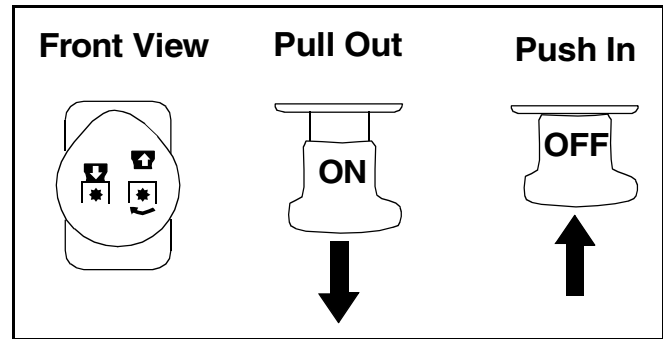

Figure 9
- Pull the PTO knob outward into the engaged (ON) position. See Figure 9.